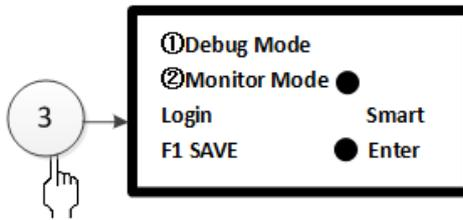

Fig. 3-21
③ System Working Mode
Enter the screen as shown in Fig. 3-21 by pressing number 3 or moving cursor to select ①. In this screen, the system working mode has 2 options: ①System Debug ②Normal Monitoring Pressing Up or Down key can select system working mode. It is saved mode with “●”. In normal monitoring mode, pressing Left or Right direction key can select login or not. Press F1 to save after selection.